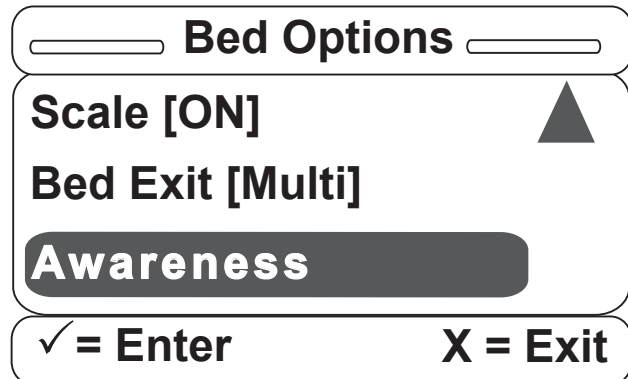

Figure S-14
14. Once the Bed Exit option is set, you will be returned to the Bed Options screen to set the next option, which is Awareness (Figure S-14). **Note that you can see the state of each option that you have previously set.** Select the Awareness option and press “Enter” on the footboard panel. If needed, press “Exit” to cancel the operation.